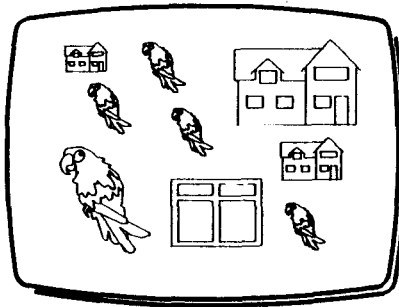

Fig 3
- 5 Press and release T. The marked unit will be erased and replaced by the library unit you chose from the library disk (Fig 3).